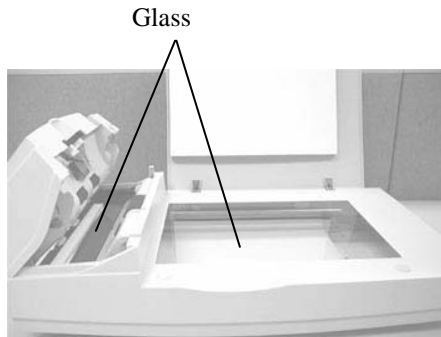

Figure 6-2 The Cleaning Area
- ii). Open the ADF unit and document cover as shown in Figure 6-2. Wipe the glass of flatbed area and ADF area by moving the swab from side to side.